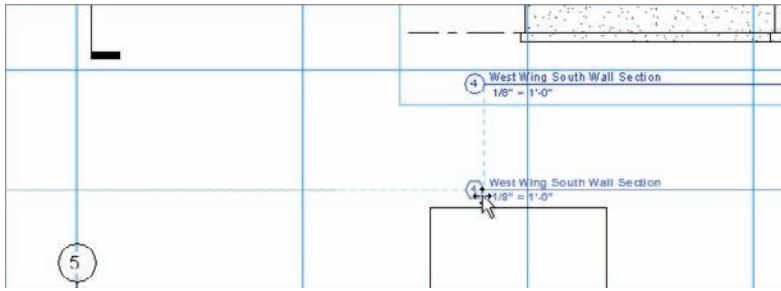

FIGURE 14.13 You can select the view title independently of the actual viewport.
4. Select the view title, as shown in Figure 14.13.
5. Move it down. As you move the view title, it snaps in alignment to the view title to the left (see Figure 14.13).